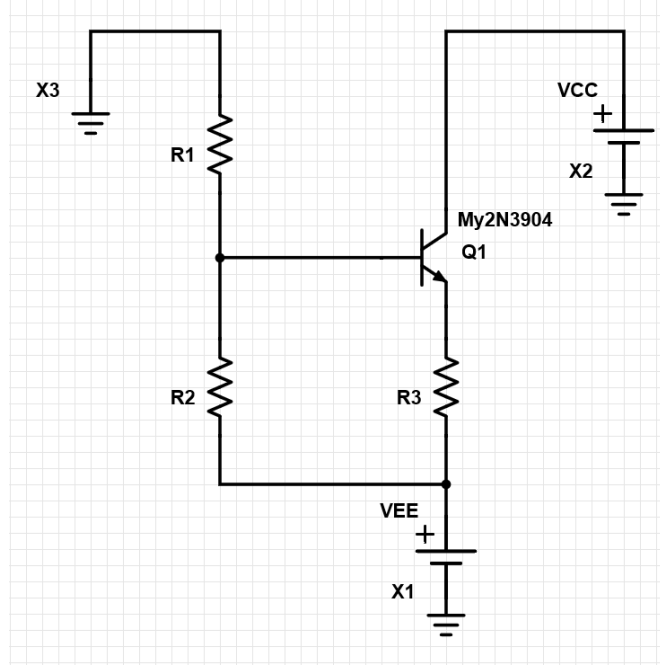

Fig. 6 Constant current sink using an NPN-BJT 2N3904
- 3.1 In PartSim, construct a current sink as shown in Fig. 6 and load the SPICE 3 model parameters for Q1 following the same procedure as shown in Video 1.2, *Lab 1: DC Characterization and Biasing Circuits*.
To avoid the change in I_B , we connect R_3 to the emitter of the BJT, as shown in Fig. 6, to work as a
Fig. 7 The equivalent circuit for the constant current sink in Fig. 6 with R_1 , R_2 , and power supply replaced by its Thevenin's equivalent circuit V_{BB} and R_{BB} .
Q12. When designing the constant current sink shown in Fig. 6, we assumed that $|V_{CE}| \geq 0.3\text{V}$ for Q_1 to work in the active region. Sweep V_{CC} in Fig. 6 from -5 V to $+5\text{V}$ with 0.05 V step and measured V_E and I_C to determine the $|V_{CE}|$ required for Q_1 to work in the active region.